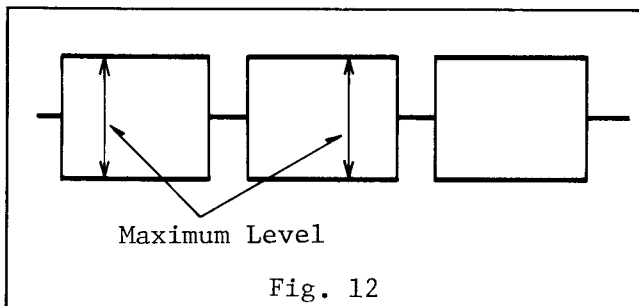

Fig. 12
3. Adjust Focus Control VR604 to the maximum signal level as shown in Fig. 12.